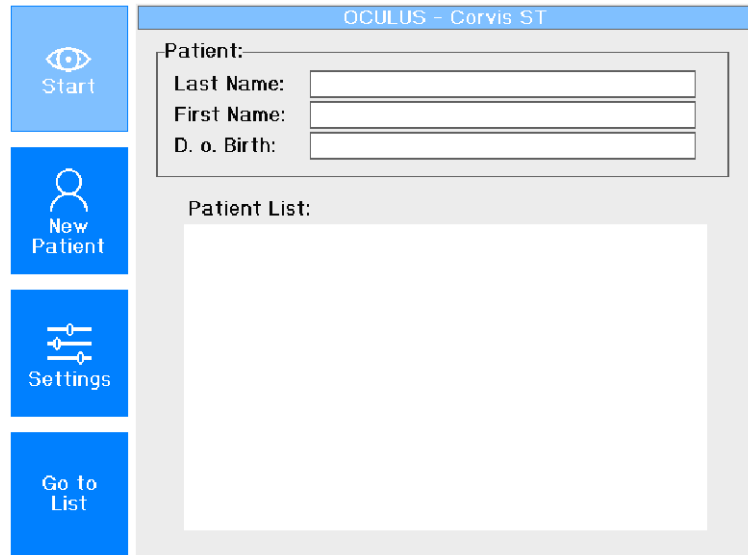

Fig. 12-1: Corvis® ST switch on
- ➔ In the Patient Data Management (fig. 12-1, page 57) menu, press the [Patient List] button.